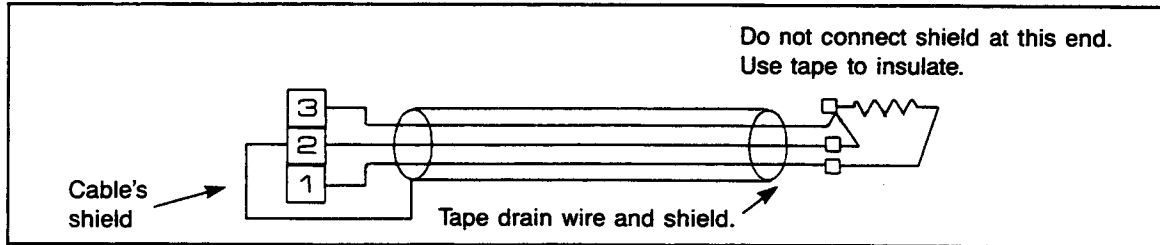

Figure 7.8 — RTD Wiring
7.5.1 RTD Wiring — If the optional RTD Module is used, each RTD must be wired as shown in Figure 7.8. Also, note the following requirements:
- At the RTD, 2 return lines must be wired together, as shown in Figure 7.8.
- In cases where the motor provides only 2 leads from the RTD, connect 2 of the 3 conductor wires together at one of the leads. Make this connection as close to the RTDs as possible. (See Figure 7.8.) If only 2 wire leads are connected between the motor and the IQ-1000, the unit does not function properly.
A portion of a typical RTD wiring diagram is shown in Figure 7.8 while a complete RTD wiring plan is shown in Figures 5.7 and 5.8.